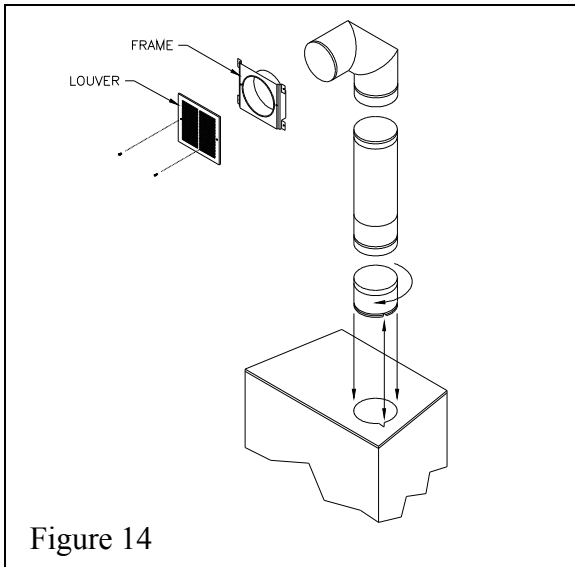

Figure 14
1. Remove the top and bottom plates closing up the 8" dia. holes on top of the fireplace. Then, cut the insulation in order to obtain two 8" dia. openings. Fix the adaptors on the fireplace openings by turning clockwise (figure 14)